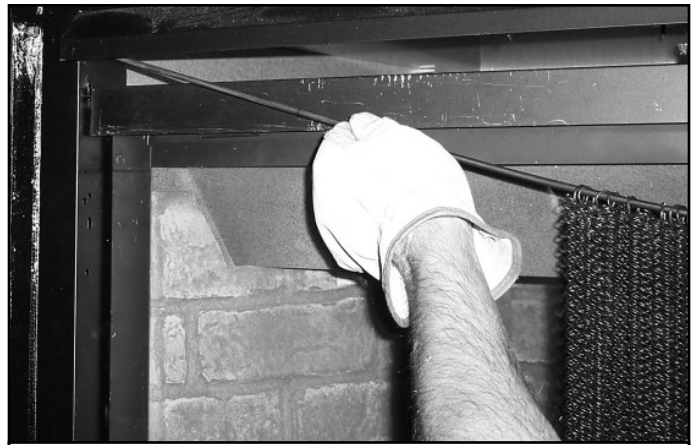

Figure 14.12 Insert Rod Into Side Columns
- Insert one end of screen rod into the hole located in the column as far as it will go. See Figure 14.12